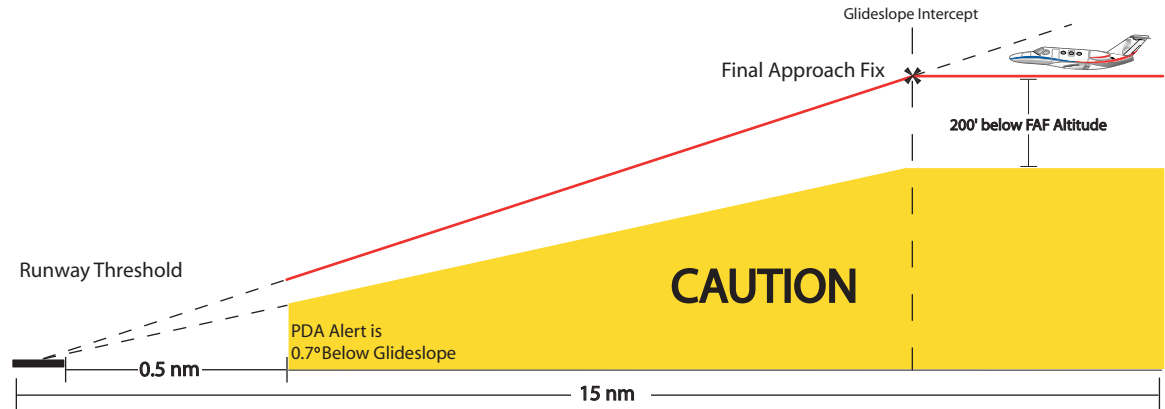

Figure 3-2: Example of PDA alert threshold for ILS approach
- ILS Approach Loaded—PDA alerting begins when FAF is the active waypoint AND the aircraft is within 15 nm of the destination airport. Once the aircraft intercepts the glideslope, PDA will alert the pilot if the aircraft descends 0.7 degrees below the glideslope (Figure 3-2). PDA alerting ends 0.5 nm from the runway threshold OR at an altitude of 125' AGL while within 1 nm of the threshold.